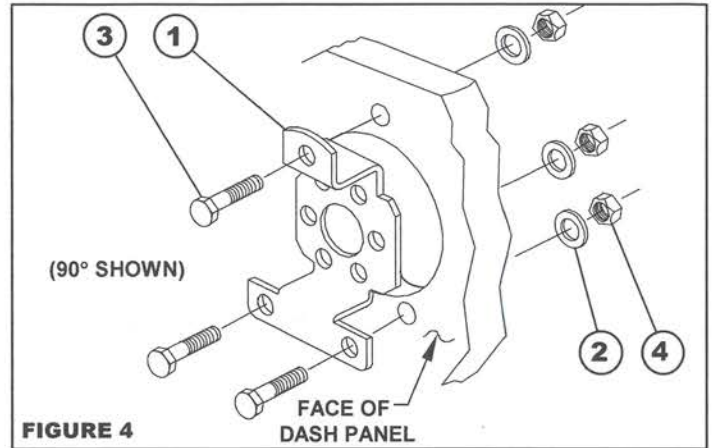

FIGURE 4
1. Place helm mounting bracket (Item 1) in position on dash as shown in Figure 4. Insert hex bolts (Item 3) through mounting holes in bracket and dash. Add a flat washer (Item 2) to each bolt and thread a locknut (Item 4) on each. Torque to 110 inch-pounds minimum. DO NOT EXCEED 145 INCH-POUNDS.